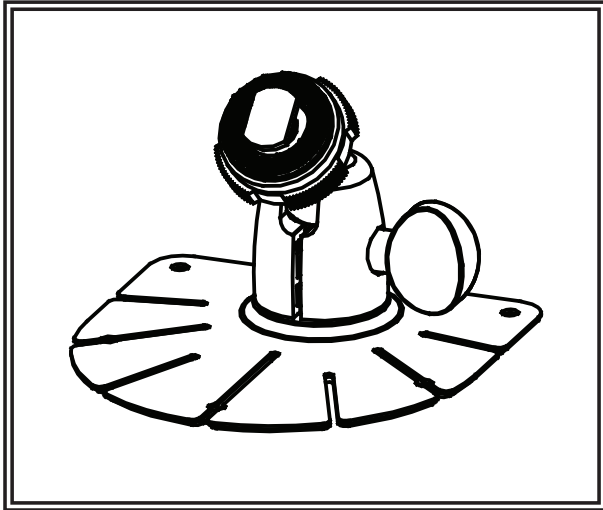

Figure 7
1. Select suitable position on vehicle and fix the base support. (Figure 7)